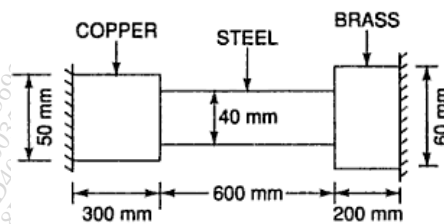

Figure 01
B) A composite bar made of copper, steel and brass is rigidly attached to the end supports as shown in figure 01. Determine the stresses in the three portions of the bar when the temperature of the composite system is raised by 70°C when